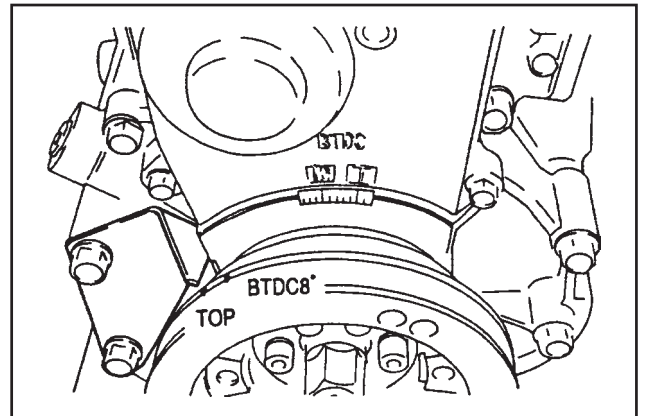

FIGURE 32. CRANKSHAFT PULLEY ALIGNMENT
9. Install the crankshaft pulley. Align the tip of timing indicator plate with the top mark, left one of two. See FIGURE 32. Prevent rotation of the crankshaft pulley. Put the plain washers on the capscrews for the crankshaft pulley and tighten the capscrews to 29 to 32 N.m (300 to 330 kgf·cm) for FE, to 32 to 37 N.m (330 to 380 kgf·cm) for F2 engine.